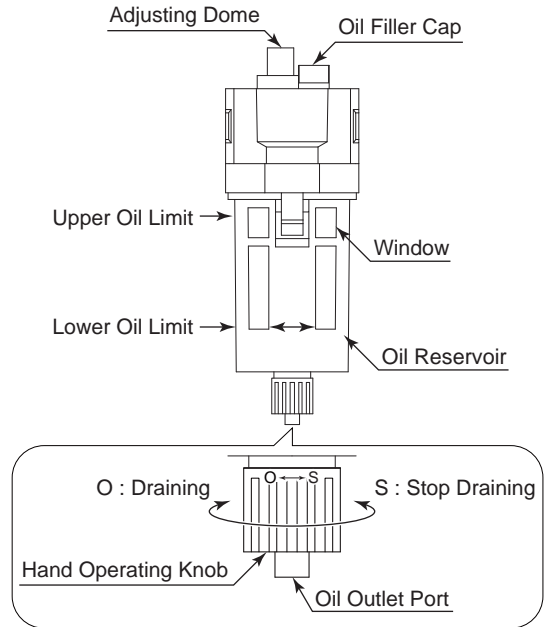

Fig. 4
## 8 - 4 Lubricator (Fig. 4)
#### (1) Oil Amount (Fig. 4)
If the Lubricating Oil level is low, add additional oil (Supply Lubricating Oil to Upper Oil Level Limit of Fig. 4).
#### (2) Replacing the Lubricating Oil and draining the water in the Lubricating Oil (Fig. 4)